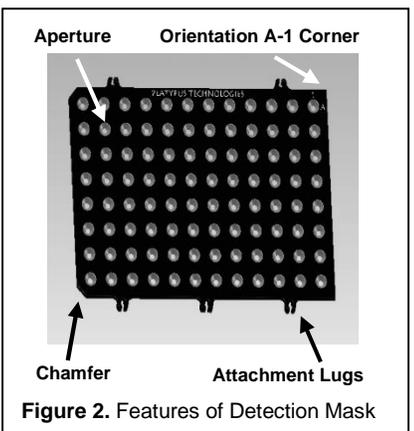

Figure 2. Features of Detection Mask
- Orient the chamfered corners of the mask with those of the 96-well plate, ensuring that the A1 corner of the mask is aligned with the A1 well of the plate (Figure 2).